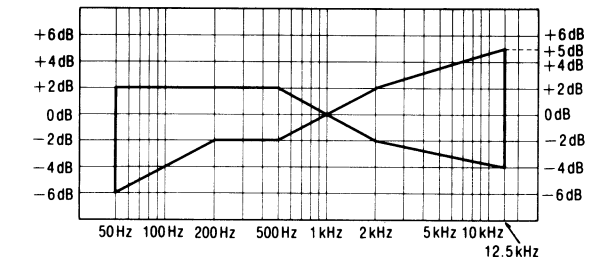

Fig. 8
6. After that increase the signal recorded on CrO₂ blank tape (QZZCRX) and metal blank tape (QZZCRZ) up to 12.5kHz and adjust in the same way as mentioned above and check that the frequency level is within the range shown in Fig. 8.